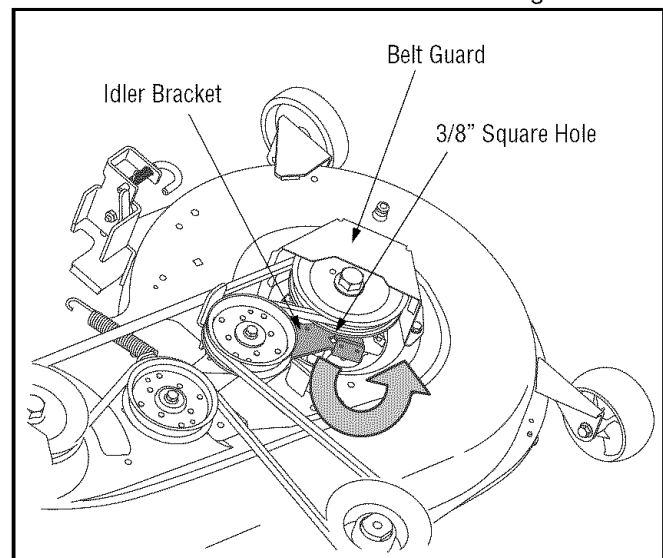

Figure 20
- Insert a 3/8"-drive ratchet wrench (set to *loosen*) into the square hole found in the idler bracket on the left side of the deck's surface. See Figure 20.